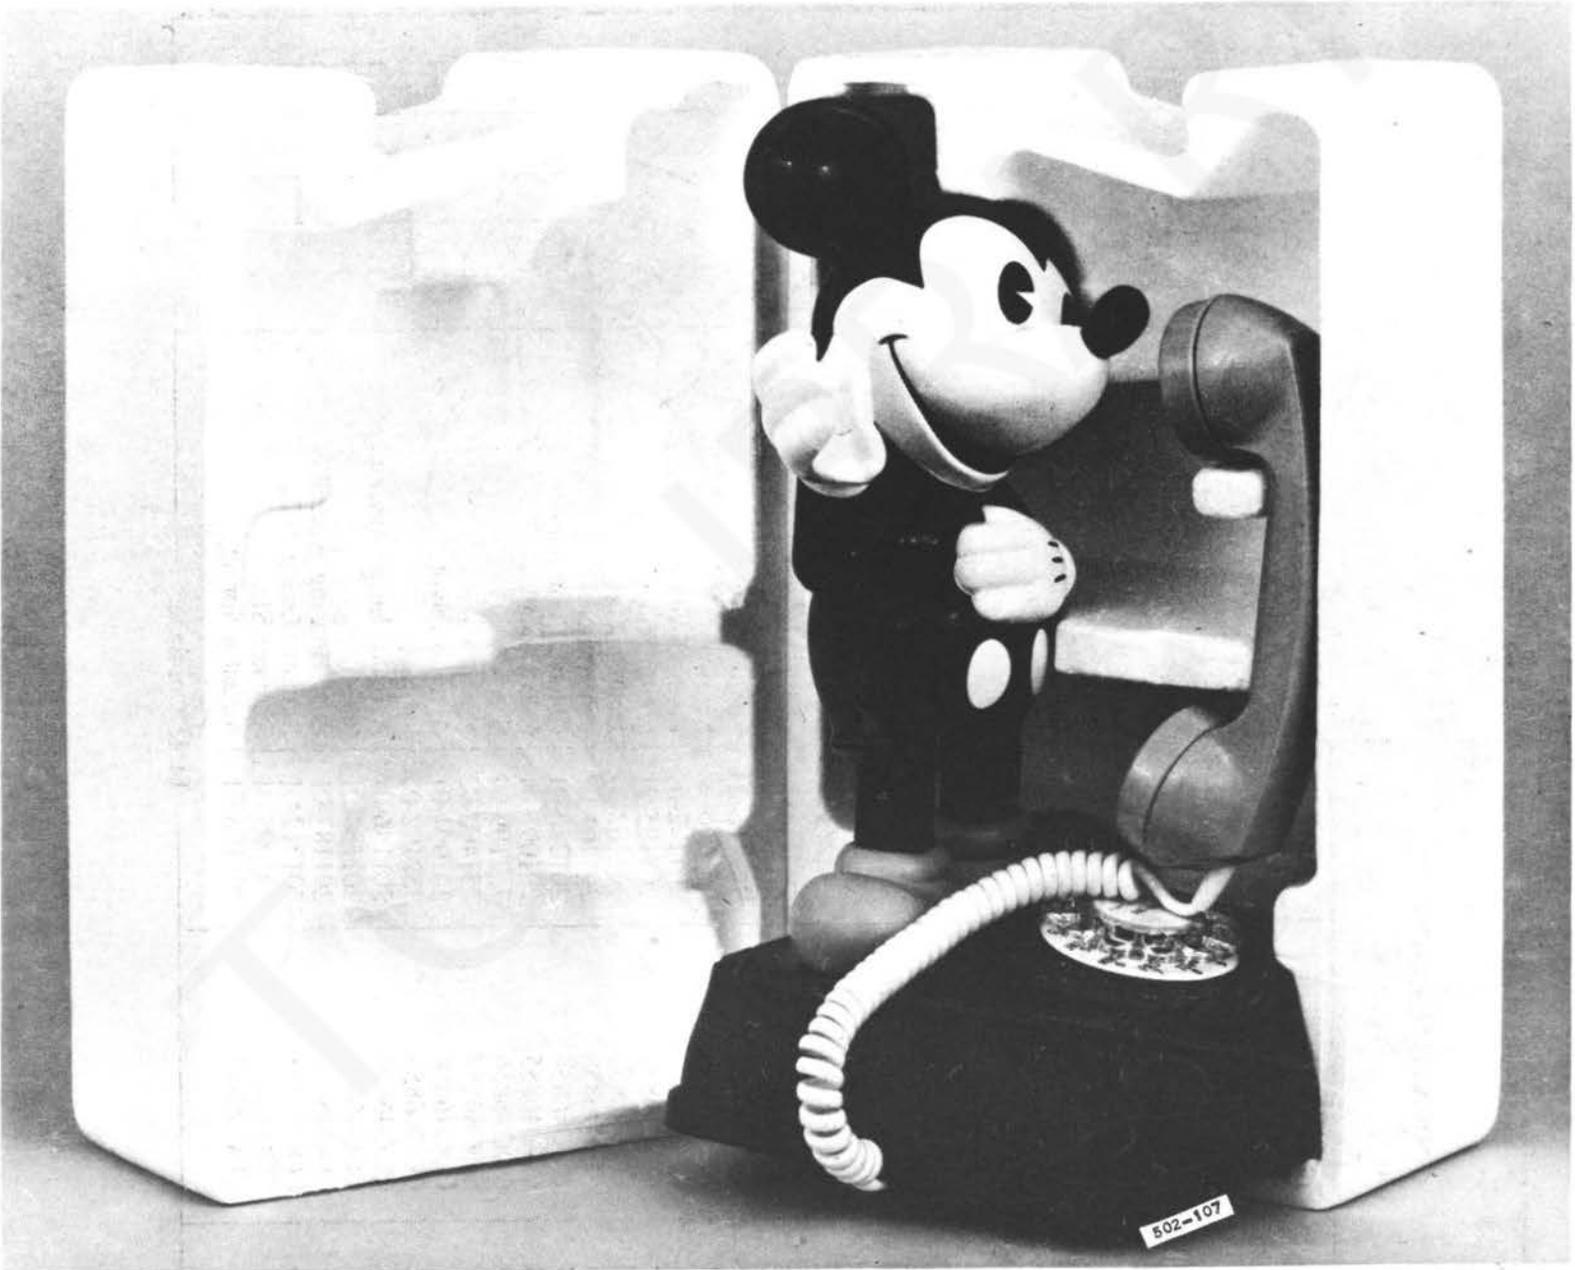

Fig. 9—Mickey Mouse Phone Telephone Set When Properly Packed
- b) Position the set in one of the foam inserts as shown in Fig. 9.